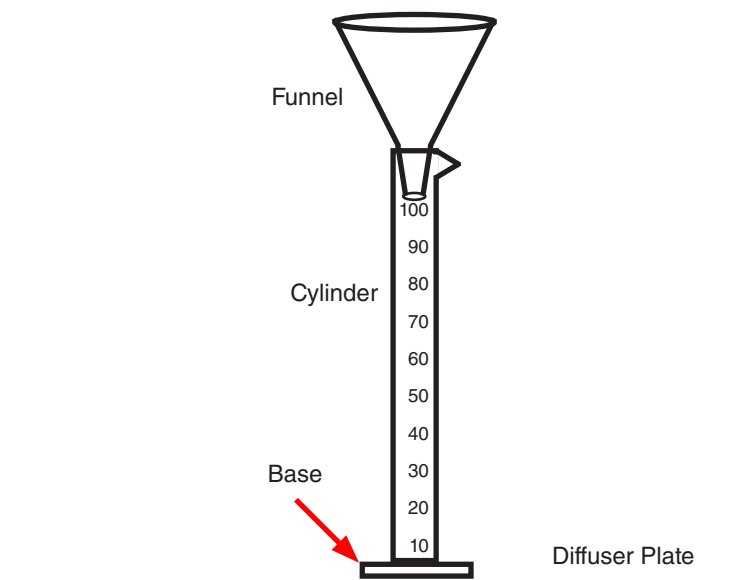
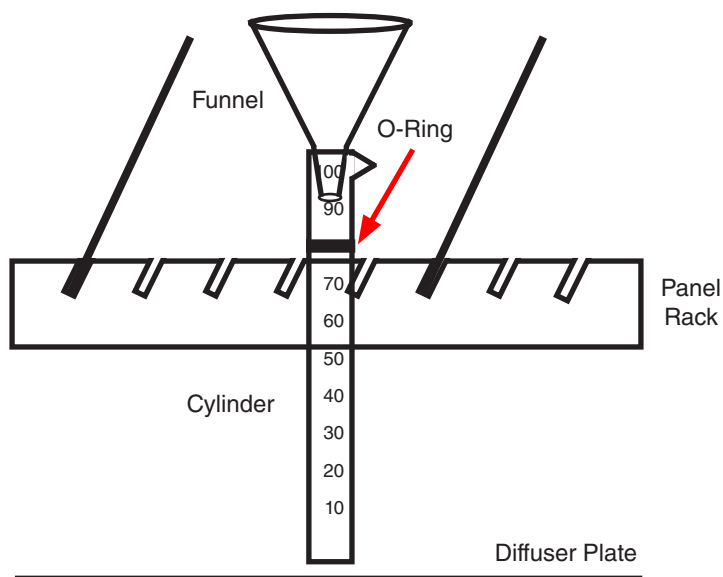

Figure 12.3b: Graduated cylinder with base attached placed on diffuser plate.
Figure 12.3c: Graduated cylinder with base removed resting in panel rack (held in place with O-ring positioned on 80 ml mark).
- Place the vessels on top of the diffuser plate (with racks removed) or through the holes in panel racks. (See Figure 12.3b or Figure 12.3c).